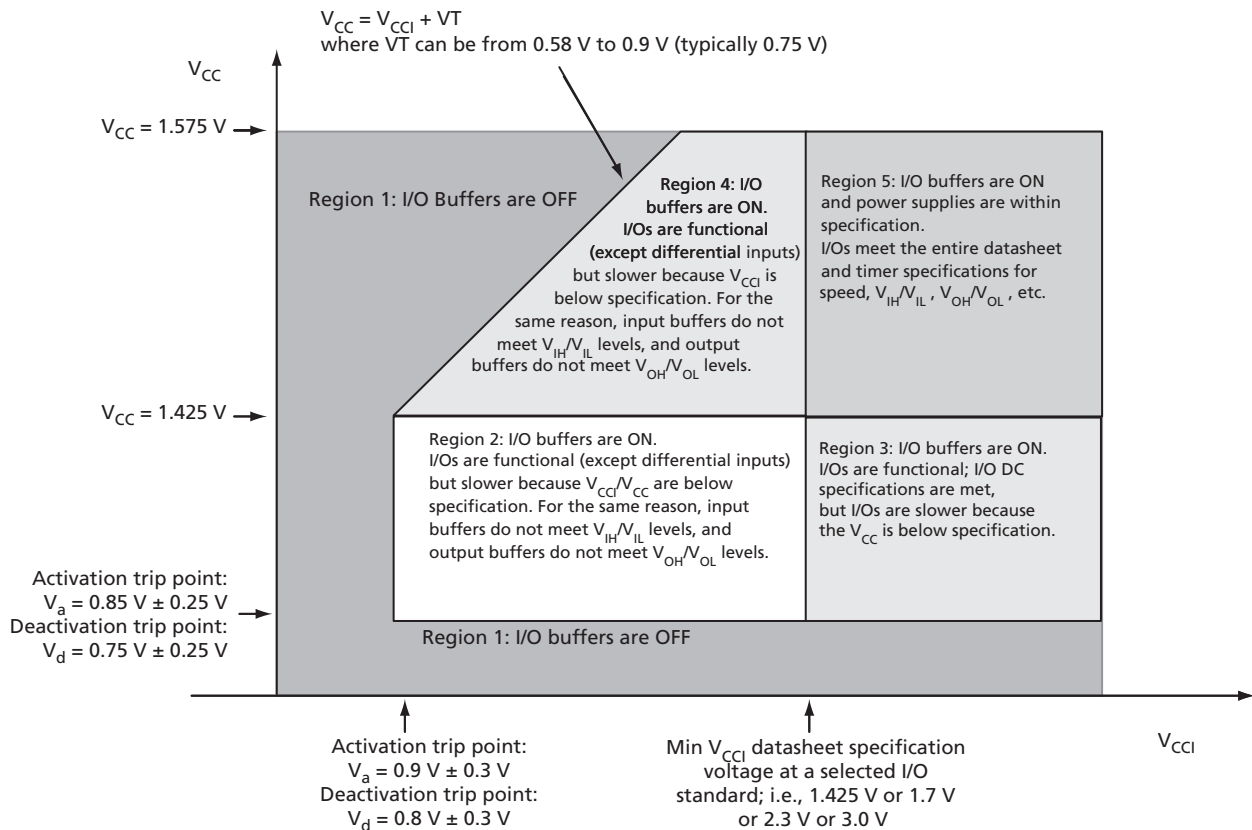
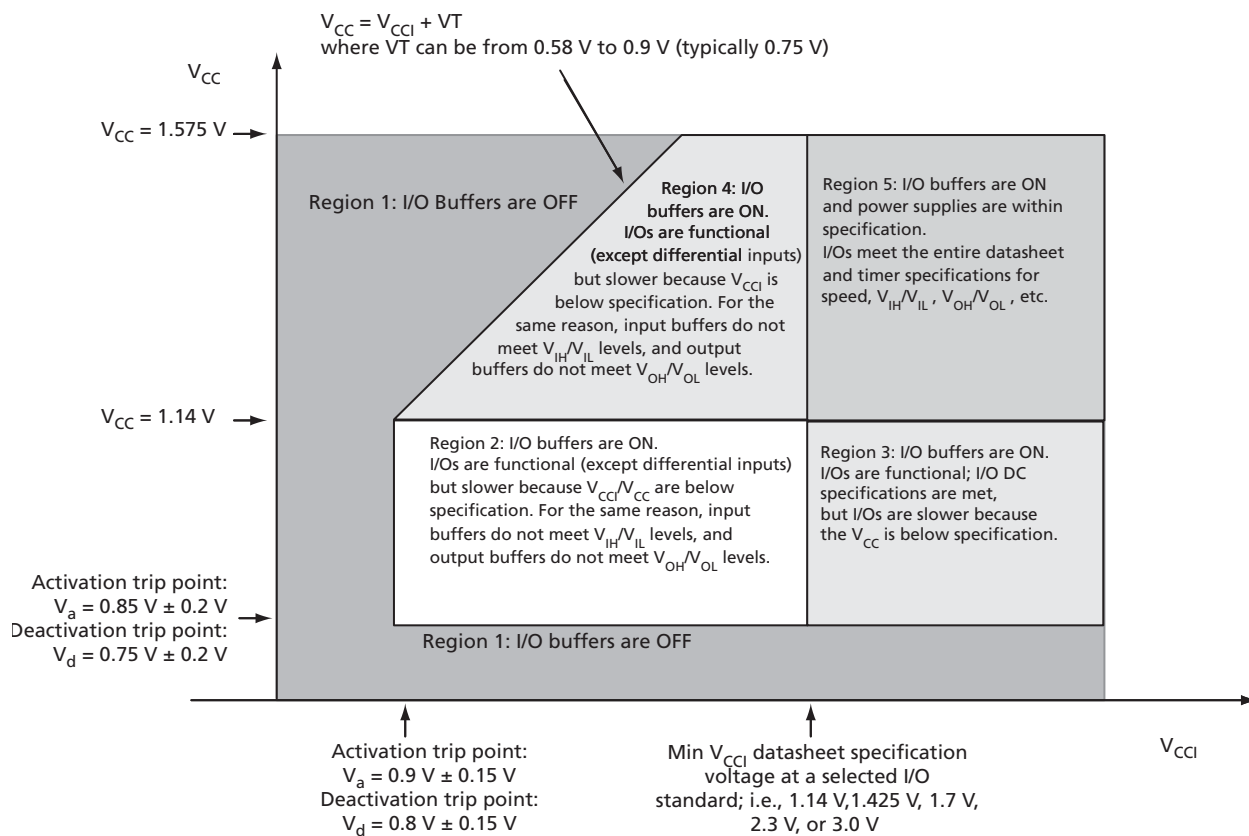

Figure 2-1 • V5 Devices – I/O State as a Function of  $V_{CCI}$  and  $V_{CC}$  Voltage Levels
Figure 2-2 • V2 Devices – I/O State as a Function of  $V_{CCI}$  and  $V_{CC}$  Voltage Levels
Sophisticated power-up management circuitry is designed into every IGLOO nano device. These circuits ensure easy transition from the powered-off state to the powered-up state of the device. The many different supplies can power up in any sequence with minimized current spikes or surges. In addition, the I/O will be in a known state through the power-up sequence. The basic principle is shown in Figure 2-1 on page 2-4.
1.  $V_{CC}$  and  $V_{CCI}$  are above the minimum specified trip points (Figure 2-1 and Figure 2-2 on page 2-5).
Actel recommends using monotonic power supplies or voltage regulators to ensure proper power-up behavior. Power ramp-up should be monotonic at least until  $V_{CC}$  and  $V_{CCPLX}$  exceed brownout activation levels (see Figure 2-1 and Figure 2-2 on page 2-5 for more details).